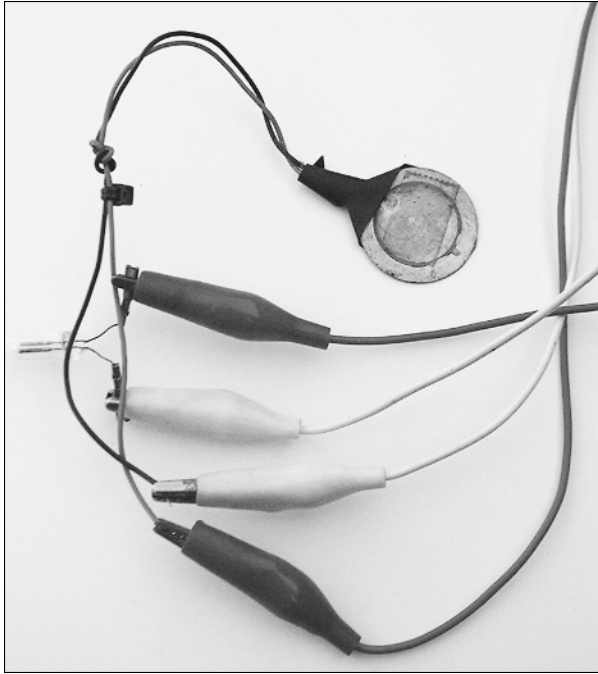

Figure 14-4:
2. Connect the disc and neon bulb together by using two alligator test leads, as shown in Figure 14-4.